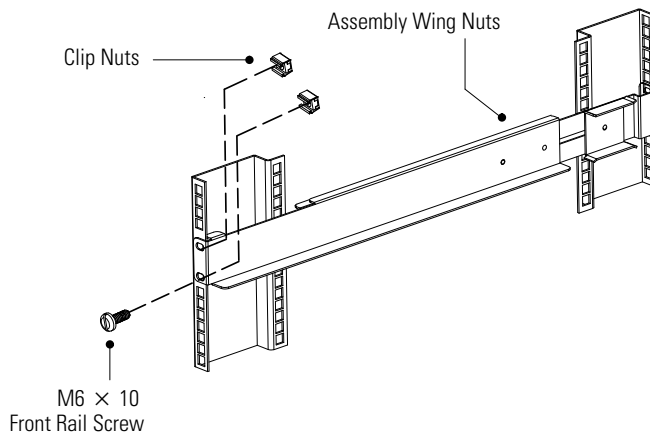

Figure 9. Securing the Front Rail
7. Secure the bottom hole of the rail to the front of the rack with one M6 × 10 screw and clip nut (see Figure 9).